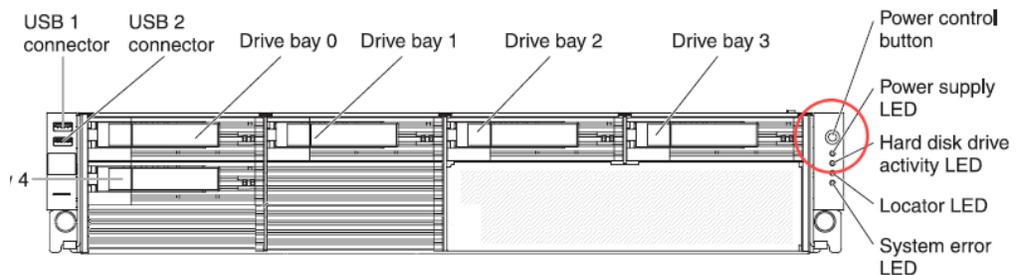

Fig. 10 - 705 / 735 model front panel, power button at far right
- C. Using a stylus or similar tool, depress the small white power button at the right of the front panel (see Fig. 10).